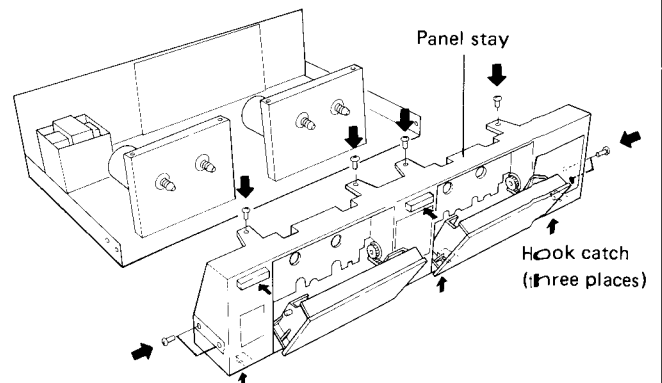

Fig. 3-5
5. Remove the panel stay. (Refer to Fig.3-5)